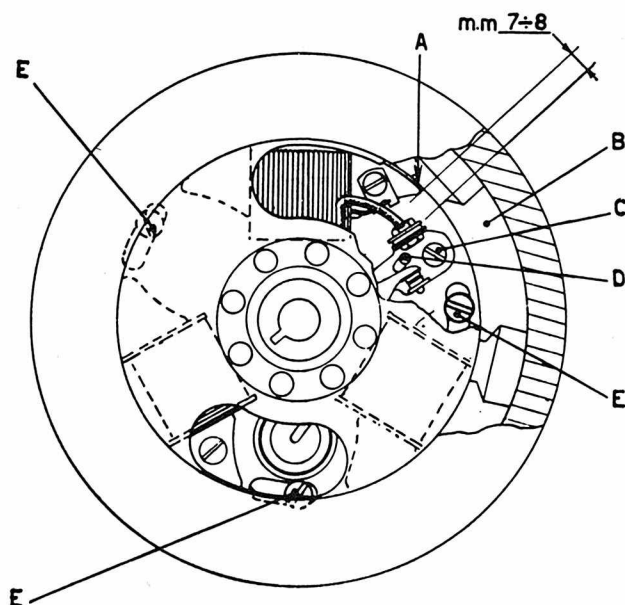

Fig. VE2-4 — Inspection port in flywheel (rotor) permits access to screw (C) to adjust breaker contacts and time the ignition.
Breaker contact gap of 0.3-0.5 MM (0.011-0.019 in.) is adjusted through ports in flywheel by loosening screw (C—Fig. VE2-4) and rotating the cam (D). Ignition timing can be varied by shifting the stator plate position by means of screws (E). Recommended timing is 28 degrees before TDC.